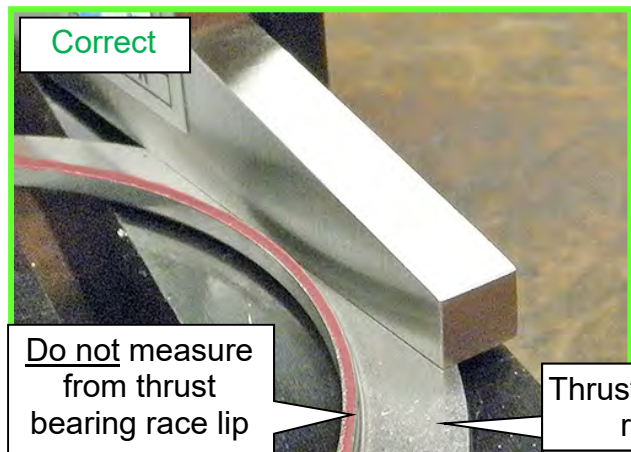

Figure 148
- c. Measure and confirm that the selected thrust bearing race is the correct thickness before installing (Figure 148).